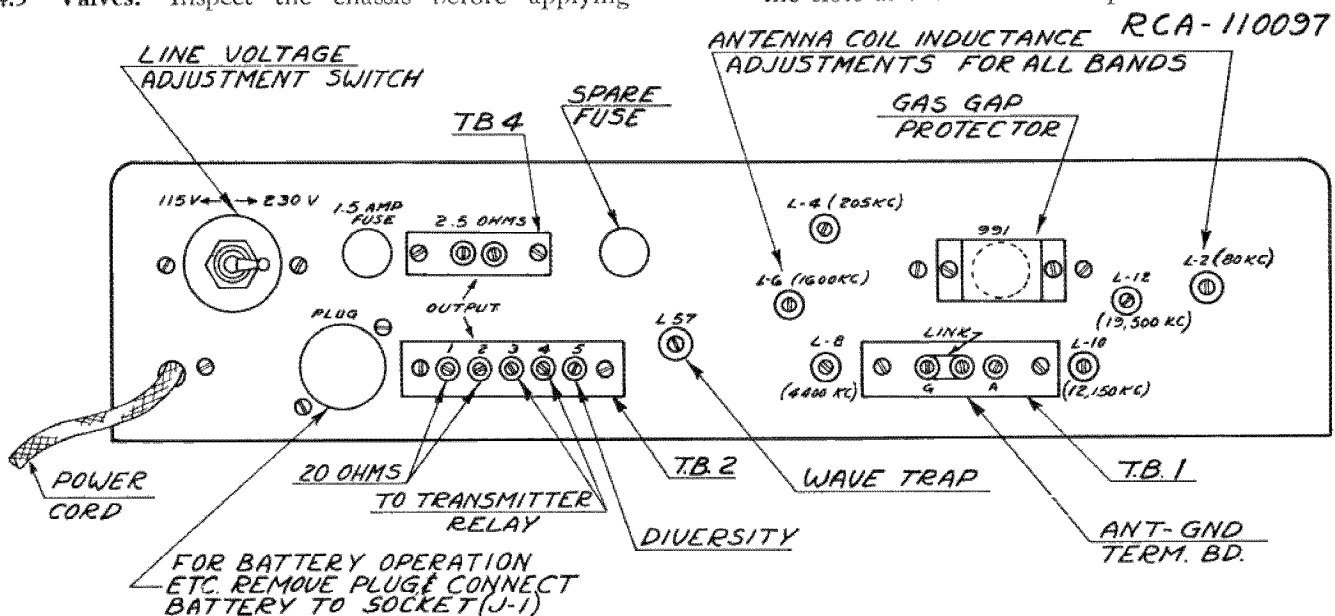

Figure 3.—General Purpose Communications Receiver—Rear Apron
- 2.2 **Input Coupling:—**The antenna coupling system is designed to provide optimum coupling from a 200 ohm transmission line; but equivalent performance is realized with a straight line antenna (see Section 4.4) with a conventional lead-in wire. The first tuned circuit is provided with a trimmer condenser adjustable from the front panel. This insures the proper tuning of this circuit with any antenna system. For all bands, conventional antenna and ground connections may also be used. The antenna terminal board is provided with three terminals (see Figures 3 and 7), two of which may be joined together with a link. When a single wire antenna is used, the link should be closed and the antenna connected to "A". If a ground is used, it should be connected to "G".
- Speaker**—Terminals for connection of a loudspeaker are indicated in Figures 3 and 7. The output transformer is designed to match a p.m. dynamic speaker having 2.5 ohms impedance.
2. Transmit position which gives energized tube filaments, open plate circuits, and shorted terminals (for transmitter relay) on the speaker terminal board on the back of the chassis. (3. & 4. on T.B.-2.). Connect relay to these two terminals for transmitter operation. (See Figure 3.)
**Refer to Figure 3:** Connect together the terminals, marked "Diversity" of the receivers, and equip each receiver with a separate antenna. Tune each receiver to the same station as explained in Section 5.12 above.